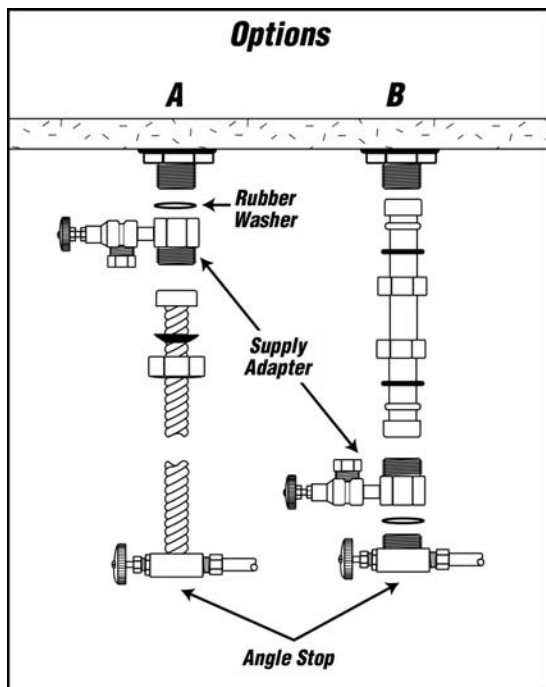
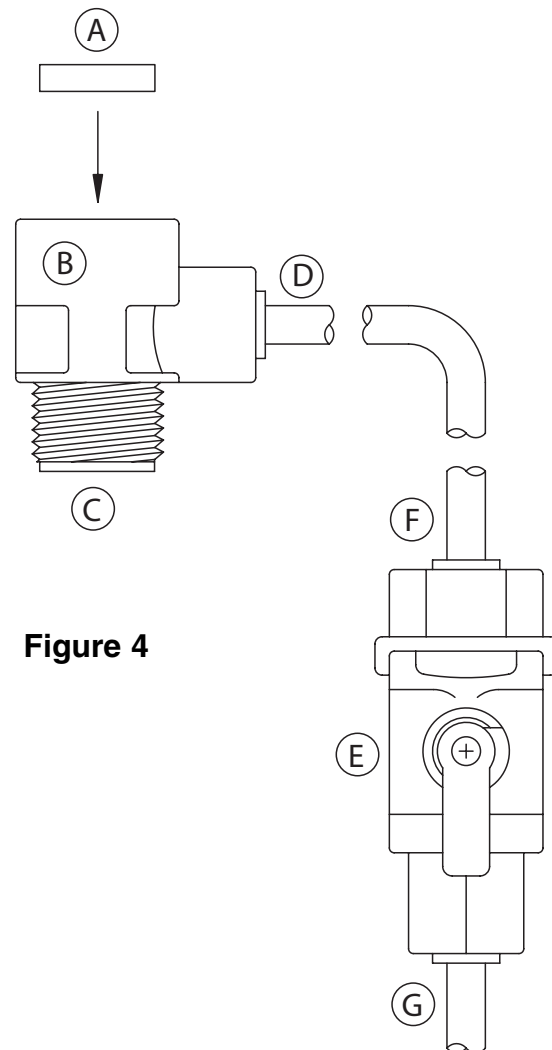

Figure 3
Figure 4
2. Using wrench, disconnect cold water supply at either cold water inlet connection on sink faucet or at angle stop valve connection. Angle stop valve location is preferred, due to ease of access (Figure 3, Option B).
3. Insert rubber washer (Figure 4, Item A) into Supply Adapter (Figure 4, Item B) and install adapter onto male end of either cold water faucet inlet (Figure 3, Option A) or angle stop valve outlet (Figure 3, Option B).
4. Align outlet hole of Supply Adapter (Figure 4, item D) toward RO Purification Assembly.
5. Attach cold water supply line to male end (Figure 4, Item C) of Supply Adapter. Tighten all connections securely (DO NOT OVER TIGHTEN SUPPLY ADAPTER).
7. Trim 6" section of orange 1/4" tubing and insert into In-Line Ball Valve (Figure 4, Item E) out-feed (Figure 4, Item G).
8. Cut additional 1 ft. length orange 1/4" tubing and insert into In-Line Ball Valve in-feed (Figure 4, Item F).
9. Insert other end of 1 ft. length orange 1/4" tubing into Supply Adapter outlet hole (Figure 4, Item D)